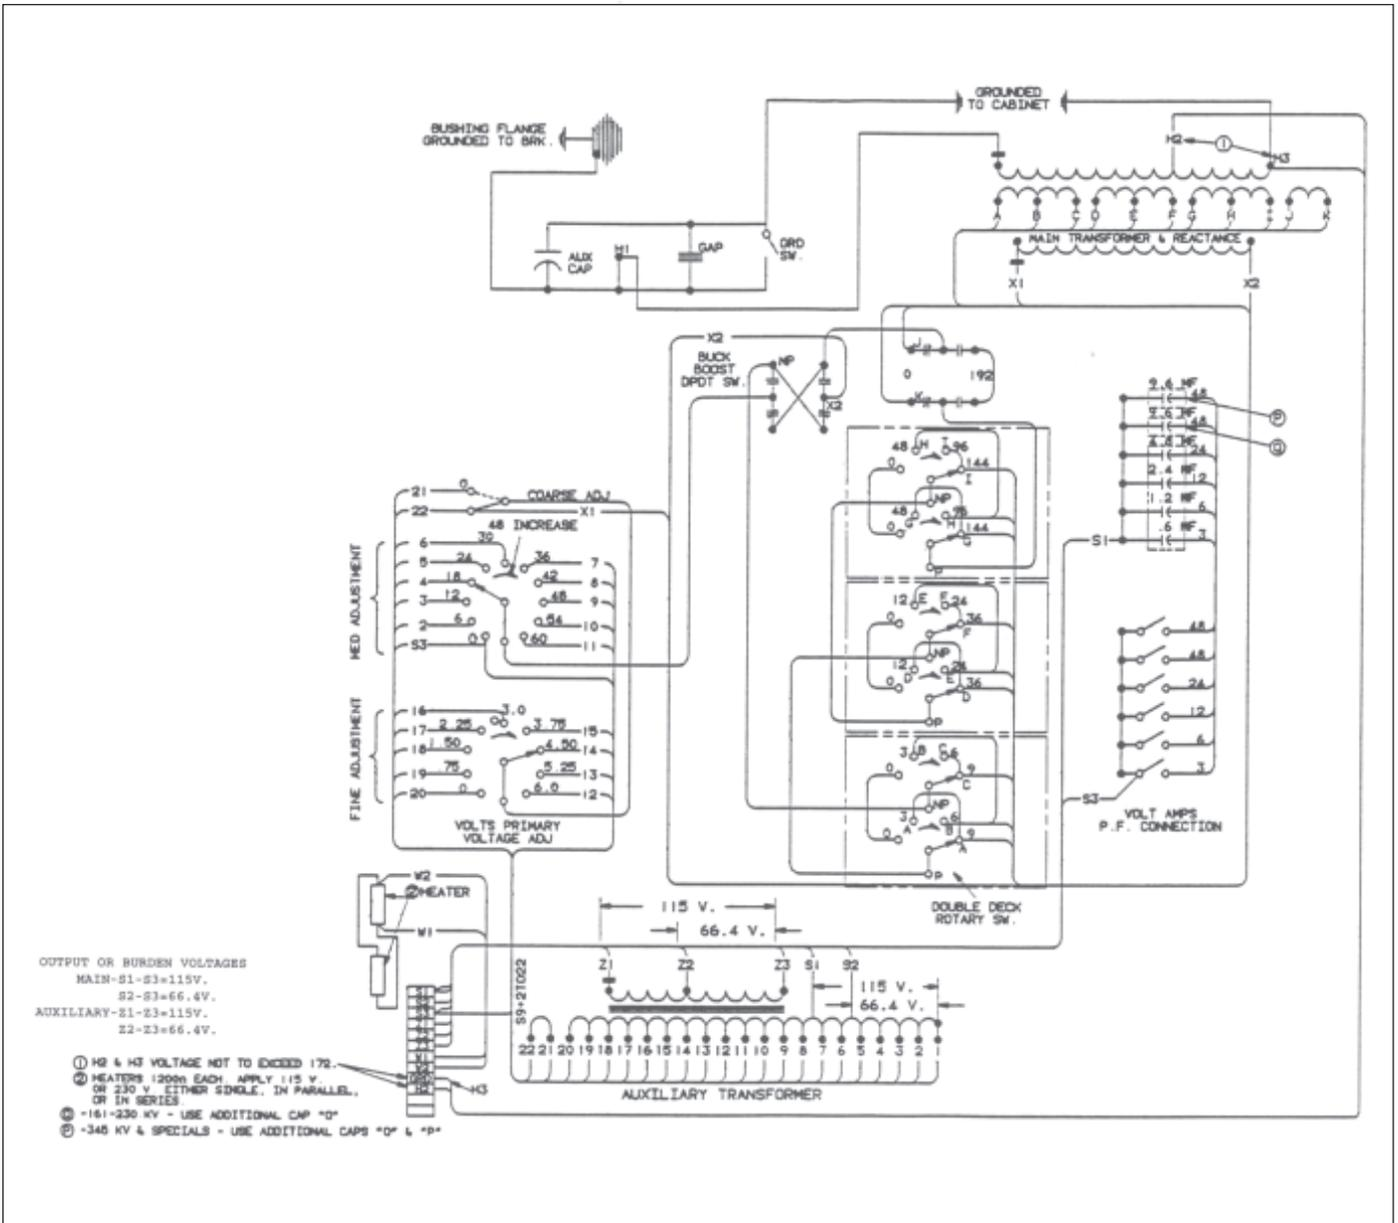

Figure 3: Connection Diagram
Correct the power factor of the burden to unity, or to a slightly leading angle. This is the first step and may be done by switching in an amount of capacitive volt-amperes, to match the reactive volt-amperes of the burden. In the case of delta-connected burdens operating from a bank of three potential devices, it may be simplest to excite the total burden from a separate voltage source and to adjust the capacitors to secure unit power-factor in each phase. This can be done by grounding terminal S3 (Fig. 3) of each device and applying the three-phase test voltage to the three S1 terminals, or the three S2 terminals, depending on the voltage. The primary shall be de-energized for this test and the ground switch open.
1. Calculate the sum of C1 + C2 + C3 using capacitance values of Fig. 3. Mark that value on the first scale on the monograph.